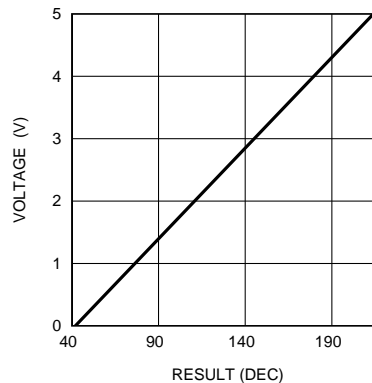

Figure 25. LED Test Results vs Measured Voltage
- This is used to store the LED test result. Read-only register. The LED test ADC's least significant bit corresponds to 30 mV. The measured voltage V (typical) is calculated as follows: $V = (\text{RESULT(DEC)} \times 0.03 - 1.478 \text{ V})$. For example, if the result is 10100110 = 166(DEC), the measured voltage is 3.5 V (typical). See Figure 25.